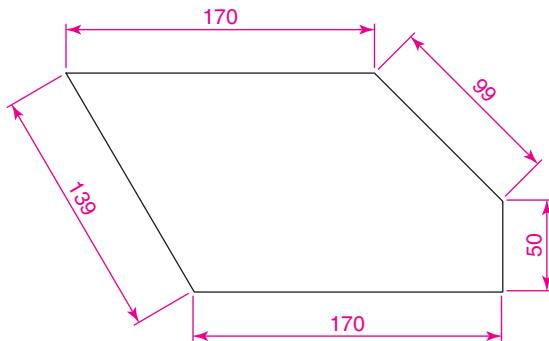

Fig. 6.5 Second example – Aligned dimension
Second example – Aligned Dimension (Fig. 6.5)
1. Construct the outline Fig. 6.5 using the **Line** tool.